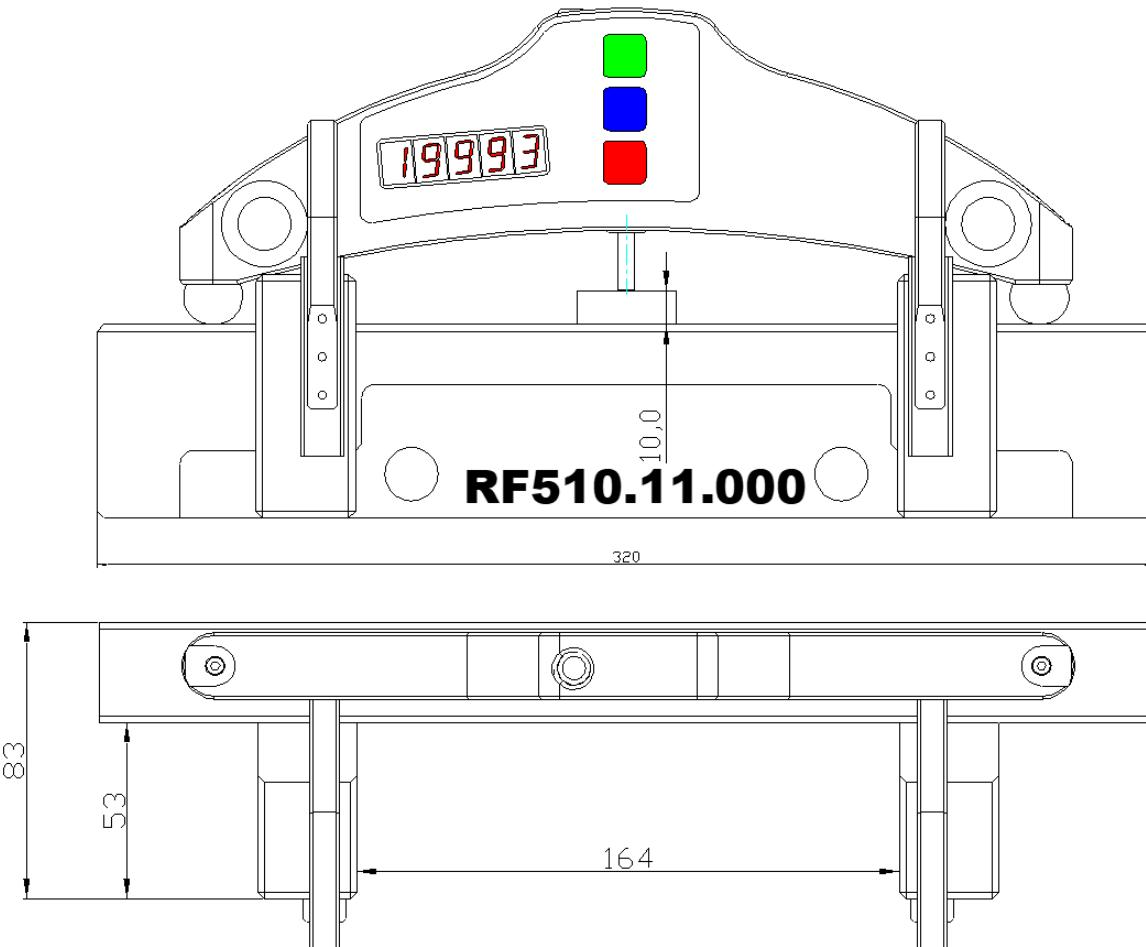

Figure 2
- Calibration plate with the deviation from flatness less than  $\pm 0.5 \mu\text{m}$  for a length of 250 mm (or Flat block RF510.11.000, Figure 2).